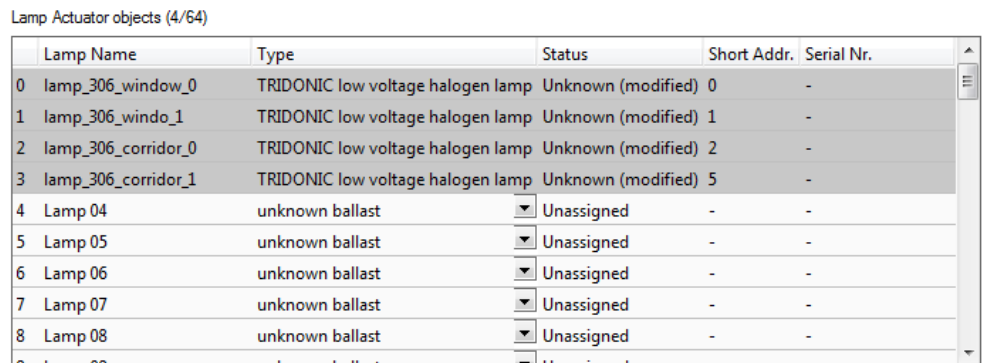

Figure 34: LINX Configurator software, assigned Lamp Actuator objects.
- To assign a DALI ballast to an object, select the ballast in the list of **DALI Devices** and drag it to the desired position in the **Lamp Actuator objects** list on the left side. You can change the names of the lamp actuator objects. After you have assigned all lamps and changed the names the configuration should look as shown in Figure 34.